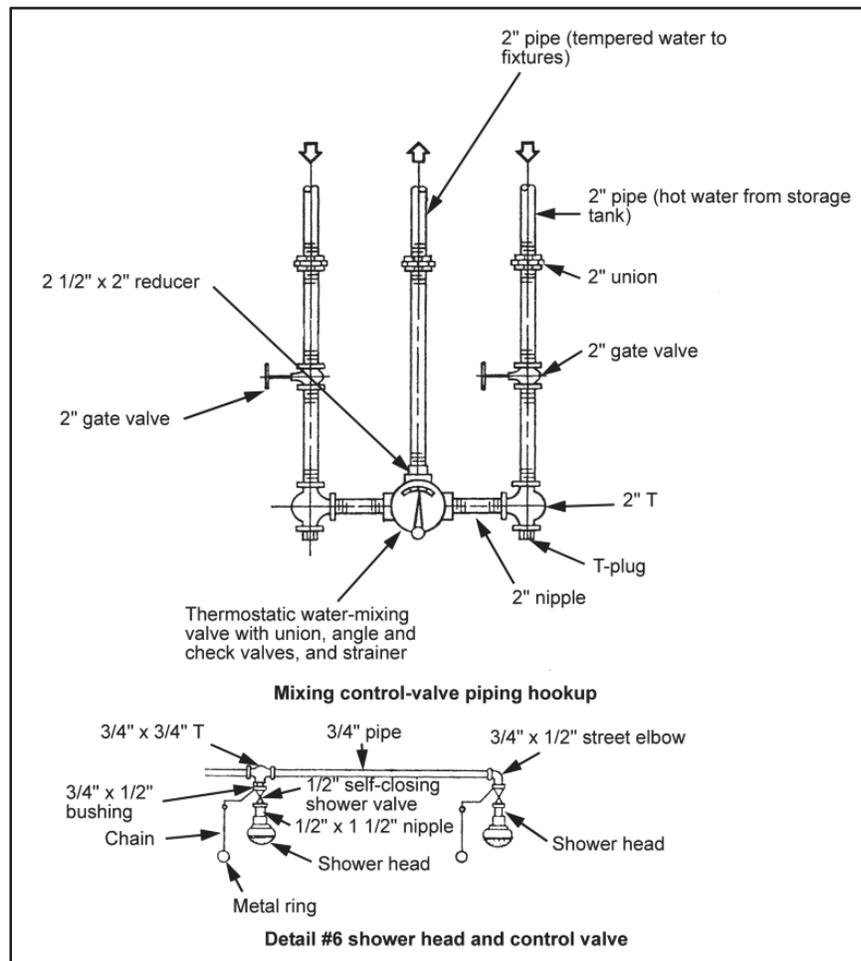

Figure B-4. Special detail drawings (bathroom and latrine)
- A special detail drawing of the control-valve and showerhead-fitting requirements (figure B-4).